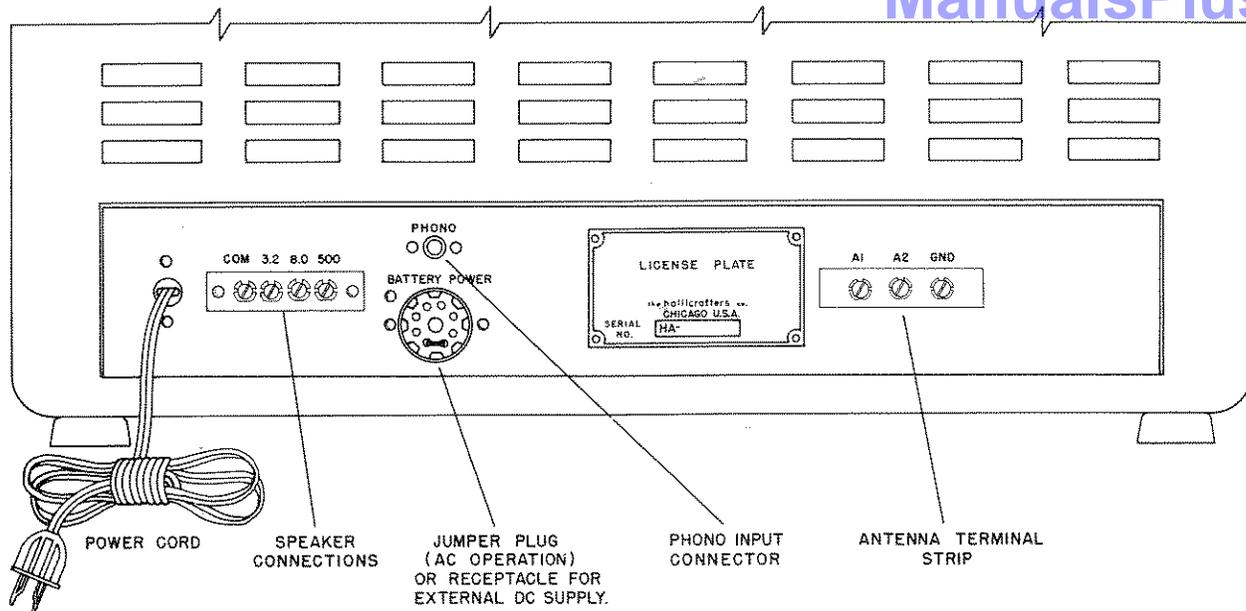

Fig. 3. Rear view.
Note - The receiver will not operate from an AC source unless the jumper plug is located in its BATTERY POWER receptacle. See Fig. 3.
**RECORD PLAYER CONNECTION** - A phono jack is provided at the rear of your receiver for attaching a record player. (See Fig. 3.) Any record player using a crystal pickup, or a magnetic pickup with a suitable pre-amplifier, will provide satisfactory results. For phono operation, insert the pin-plug from the record player or pre-amplifier into the phono jack, set the **RECEPTION** control at "PHONO", set the **RECEIVE-STANDBY** switch at "RECEIVE", and adjust the **VOLUME** and **TONE** controls as desired. The remaining controls are inoperative and will have no effect on phono operation.